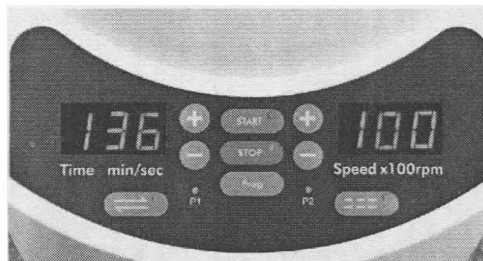

Fig.7.1
7.1 Set grinding time (Fig.7.1)